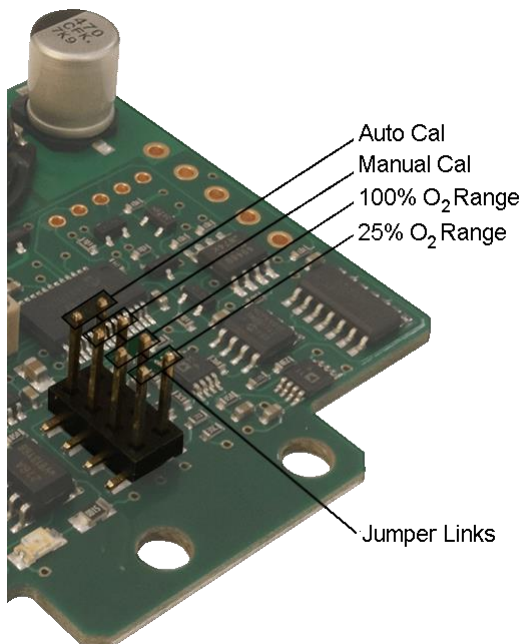

Figure 7 Jumper Link Configuration
NOTE: Ensure jumper links are correctly seated and in the correct orientation as shown in Figure 7.
The Mini-OX is factory default to output a range of 0 – 25% O₂ via its two analog outputs. This range can be expanded to 0 – 100% O₂ by repositioning the jumper link as described in Figure 7. When the unit is reconfigured to output 0 – 100% O₂ the user also has the option to fully customize the output ranges via RS232. This is extremely useful in applications where the O₂ variation is within a narrow band as it allows the analogue outputs to be tailored to this limited range.
1. Ensure the Mini-OX is configured for 0 – 100% O₂ operation, see Figure 7.